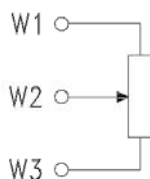

FIG. 1
MVB46P model is supplied with 1 K Ω aux. potentiometer. The potentiometer presents 0 ohm between W3 and W2 and 1000 ohm between W2 and W1, when the actuator is in upper position (see Fig. 1), and a 50 ohm variation for every mm of stroke, increasing between W2 and W3 and decreasing between W2 and W1.
- For MVB52/56 only, make sure that jumper SW2 is in A position (Fig. 1).